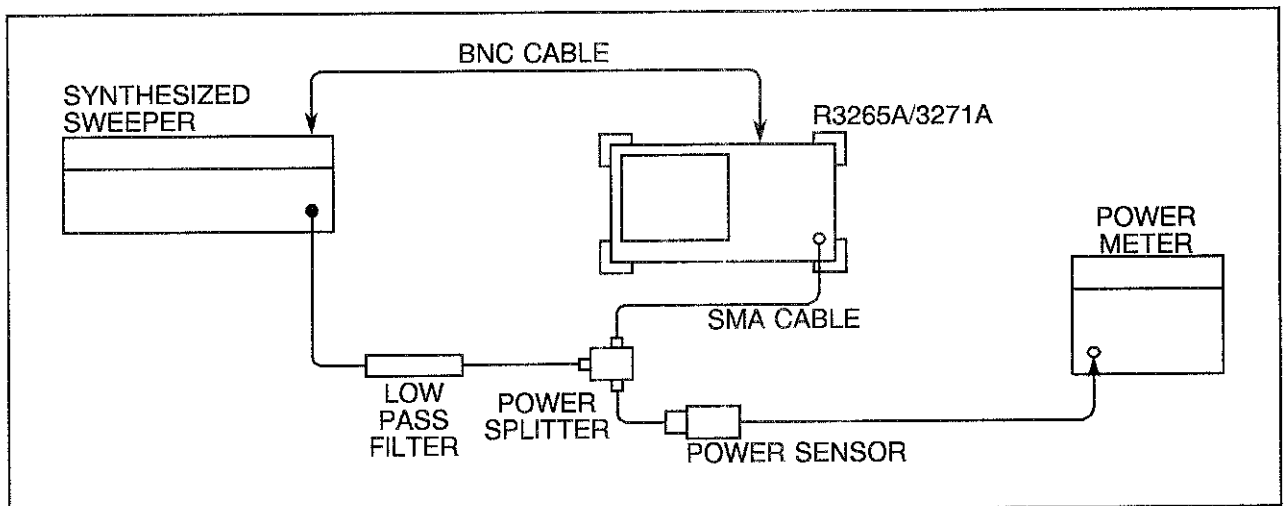

Figure 4-11 Second Harmonic Distortion Test Setup
- (1) Zero and calibrate the power meter. Rotate the CAL FACTOR switch to the power sensor's 1.5 GHz calibration factor.
- (2) Connect the equipment as shown in Figure 4-11.
- (3) Press the INSTR PRESET key on the TR4515. Set the TR4515 controls as follows:
- (13) Connect the equipment as shown in Figure 4-11.
- (14) Rotate the CAL FACTOR switch to the power sensor's 1.9 GHz calibration factor.
- (15) Set the TR4515 key for a 0 dBm \pm 0.1 dB reading on the power meter.
(16) Set the R3265A/3271A center frequency to 1.9 GHz and span to 1 kHz.